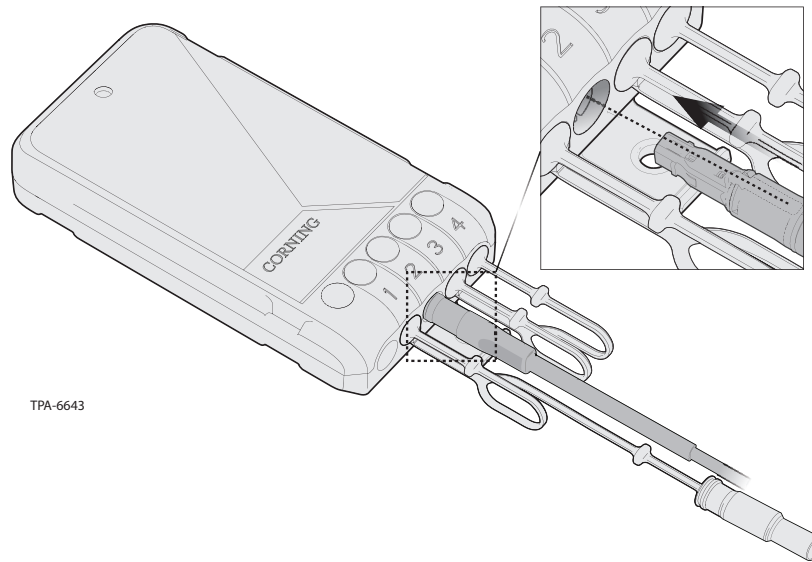

Figure 28
Step 2: Align the notch on top of the connector, with the port button on the terminal (Figure 28).